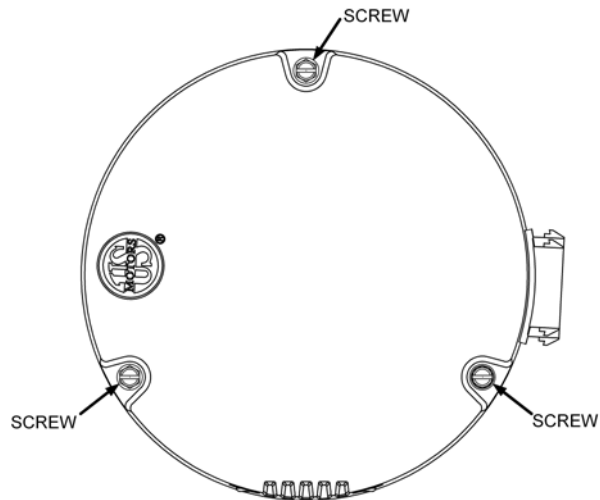
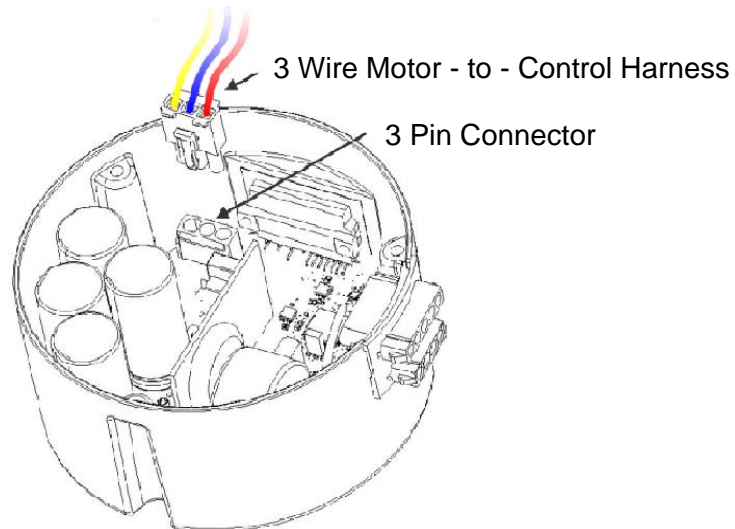

Figure 13
Figure 14
3. Remove three screws securing the motor and control unit together. Grasp the control unit and pull away from motor until both units are separated [Figure 13].
4. Disconnect the three-wire motor-to-control harness from the control [Figure 14] and remove control unit [Figure 13]. Inspect for bent, damaged, or recessed wires and terminals inside of connector.